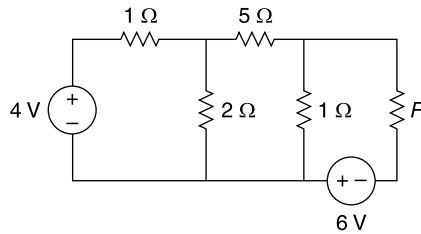

Fig. 4.116 Circuit of Ex. 4.85
4.85 Find the value of R in the circuit of Fig. 4.116 such that maximum power transfer takes place. What is the amount of this power?